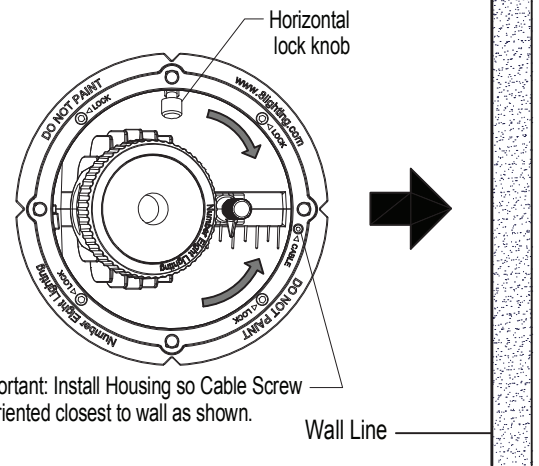

FIG 1.2 Adjust Horizontal position
Step 2 Unlock & adjust horizontal aiming angle to aim light towards wall surface to be illuminated-FIG 1.2.